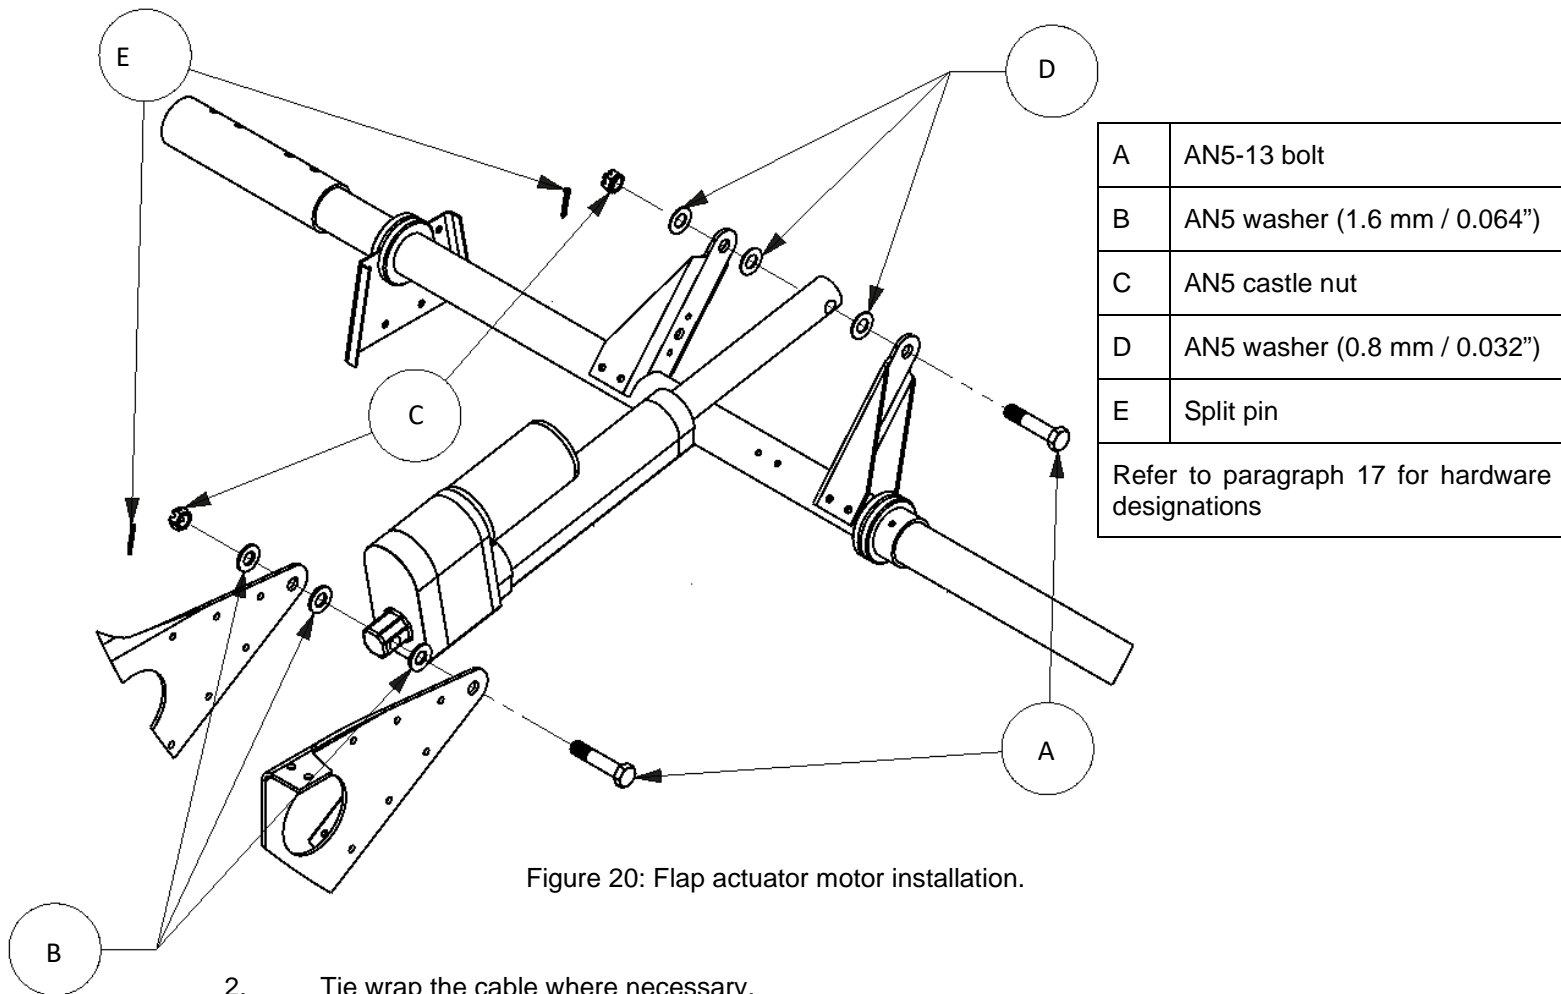

Figure 20: Flap actuator motor installation.
- Observe correct placement of washers (refer to Figure 20).